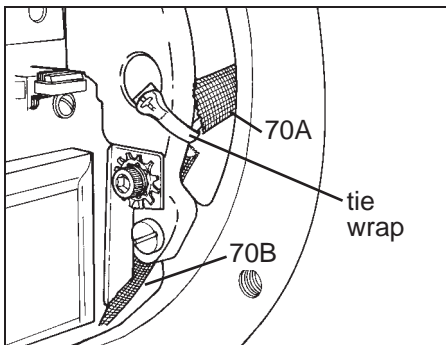

Figure 2
9. To protect wire insulation, slide fiberglass tubing (70A) over underside of support plate lead wires and into endplate lead wire outlet hole until it touches the elbow. (See Figure 2.)
11. Using tie wrap provided, install tie wrap so that wires are held away from pressure plate as shown in Figure 2.
**Note:** If release rod is not in manual release position and has allowed the mechanism to overadjust, the support plate will not seat against the endplate. It will have to be reset. In this case the lever arm (17) throat will be near, or touching, the pinion (32) teeth. Loosen pressure spring nut (19) until pressure spring (11) is free. Mount support plate and retighten spring nut, do not overtighten. Lift plunger to maximum travel and release.